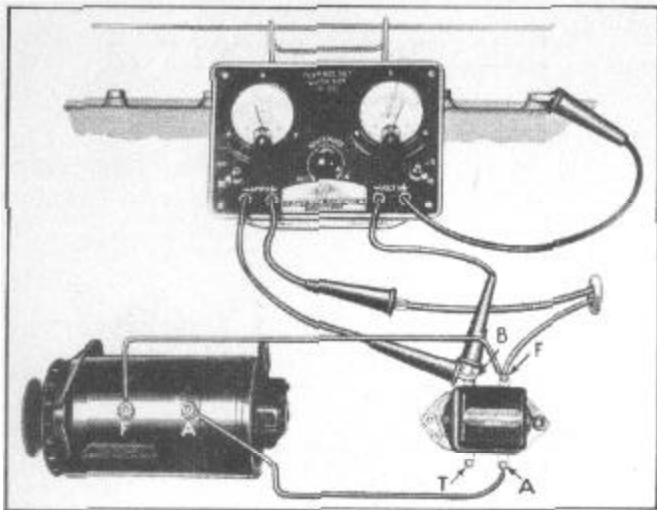

FIGURE 21
1. Disconnect battery lead at voltage regulator "B" terminal and connect positive ammeter lead to wire just disconnected, and negative to the regulator "B" terminal as shown in Figure 21.